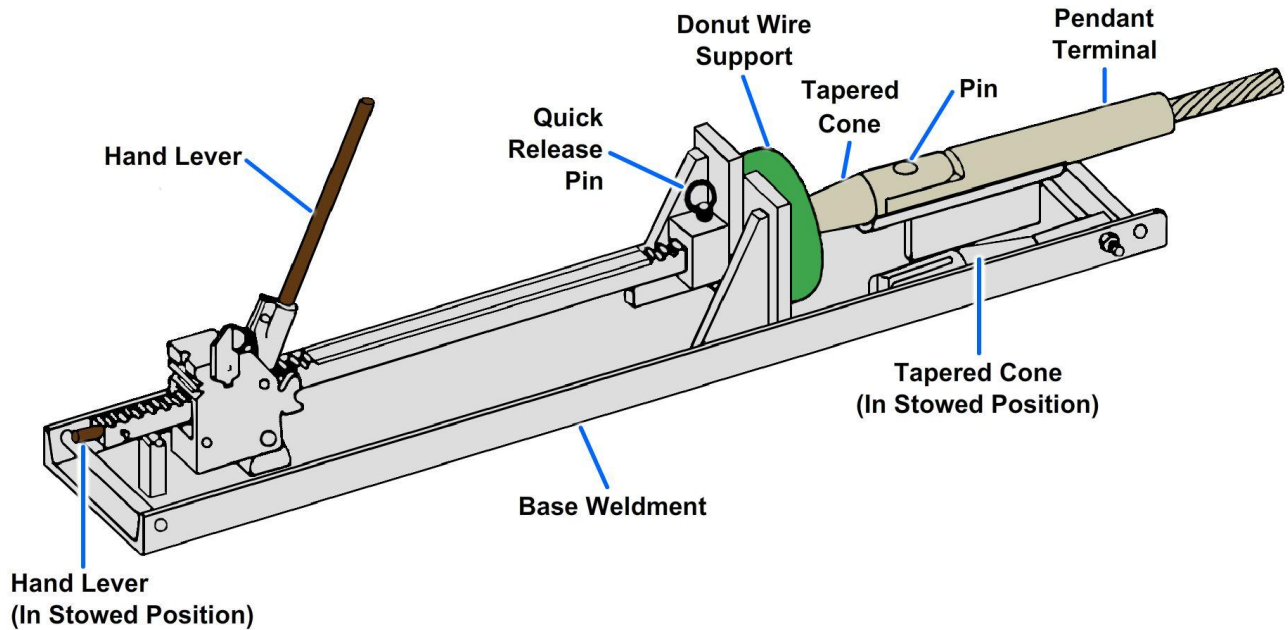

Figure 9-6 — Donut wire support installation tool.
1. Place the donut wire support installation tool (*Figure 9-6*) beneath the pendant terminal and pin the tapered cone to the terminal.
3. Install the donut wire support on the tapered cone, and pin the cone to the installation tool as shown in *Figure 9-6*.